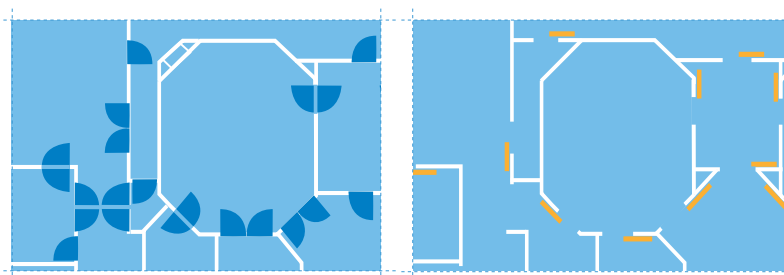

Figure 3. Sliding vs swing doors can save up to 15 % of space based on opening area that swing door requires
3. Available space	- How critical is to save space in each concrete case (see Figure 3)? - What space is required for particular door type installation?
- Certain door types can save more space than others. For example, sliding doors are up to 15% more space efficient than standard swing doors, which require 1.5–2 m² of floor space for opening (see Figure 3).